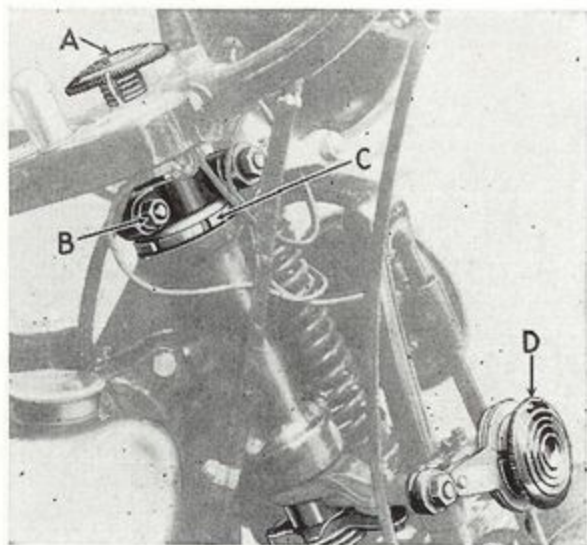

Figure 18
**Models 536 and 636**—To check the adjustment of the steering head bearing, jack up the front end of the motorcycle so that the front wheel is clear, loosen the steering damper (by turning the wheel "A" (Fig. 18) to the left until it turns freely) and try turning the handlebars to the right and left. There should be a slight drag if the bearing is properly adjusted. If there is no drag or too much drag, remove the handlebars, flatten out the portion of the adjusting cone lock nut and loosen the lock nut. Loosen the nut "B" (see Fig. 18) which holds the spring top anchorage to the fork stem. If there is too much drag, turn the adjusting cone "C" to the left and if there is not sufficient drag turn it to the right. Put on the lock nut washer and the lock nut. Tighten the lock nut and fasten it in place by turning up the lock washer against one of the flat sides of the nut. Tighten nut "B" and replace handlebars.
**Models 536 and 636**—The steering damper works entirely through friction discs tightened or loosened by the hand wheel at the top of the fork stem (see Fig. 18). It is in no way to be confused with the adjustment of the steering head bearing. If the front end shakes or wobbles at high speed on the road turn the wheel "A" to the right to increase the friction. If it is difficult to turn the handlebars from side to side, turn the wheel "A" to the left, decreasing the amount of friction. For stiffer action of the spring fork turn the ride control wheels "D" to the right. For softer action, turn them to the left. When adjusting the ride control be sure to turn the right and left hand wheels an equal amount.